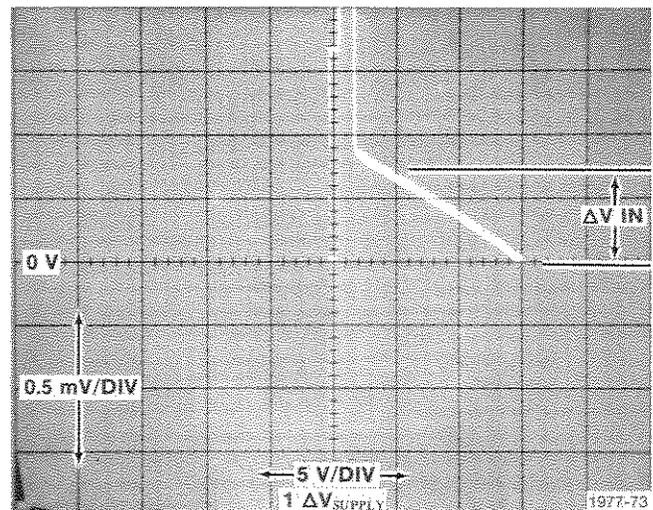

Fig. G-10. ± Supply rejection ratio.
- d. Change the 178 FUNCTION switch to ±PSRR and calculate ±PSRR from the resulting display (see Fig. G-10).